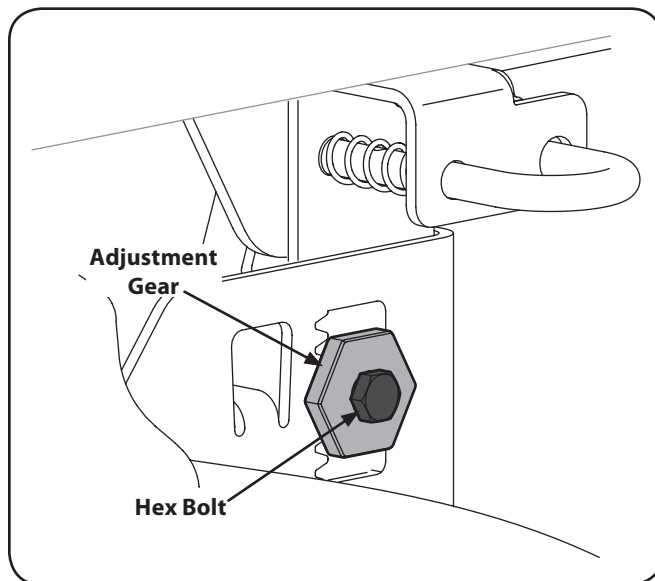

Figure 6-4
3. Loosen, but do NOT remove, the hex bolt on the rear left deck hanger link. See Figure 6-4.
4. Using a wrench, raise or lower the left side of the deck by turning the adjustment gear. See Figure 6-4.